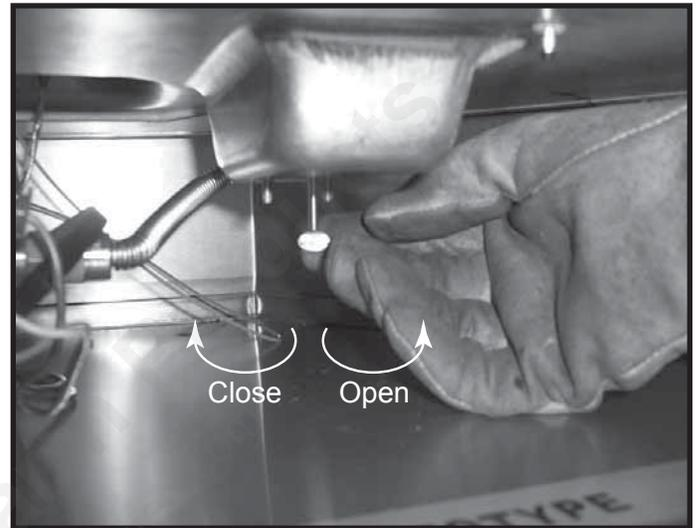

Figure 15.7 Adjusting Air Shutter
- Adjust air shutter for longer vertical runs. See Figure 15.7.